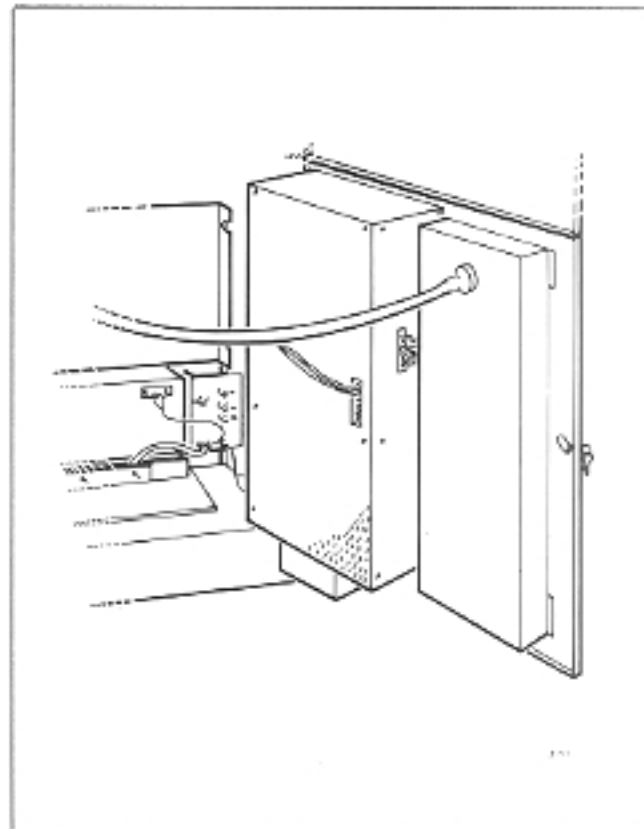

Fig. 2-5 Primary Power Supply
2.14 The system primary power supply (Fig. 2-5) mounted directly on the cabinet back panel, (total weight 70lb., 32kg) provides all system power from 115Vac or 230Vac, 48Hz to 64Hz commercial power supply.